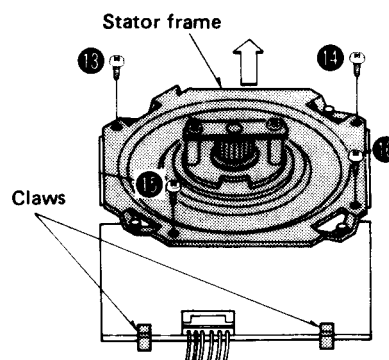

Fig. 4
2. Remove the 4 setscrews (Fig. 4 : 13 ~ 16) of the stator frame.
3. Remove the stator frame from the 2 claws in the direction of the arrow. (Fig. 4)